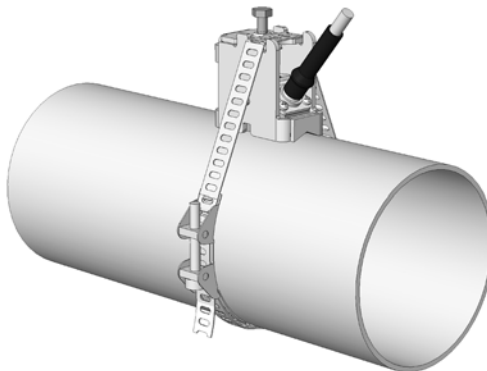

Fig. 7.5: Mounted transducer in transducer shoe
- Place the clasp on the side of the pipe just in front of you. Lay the tension strap around the pipe (see Fig. 7.5).